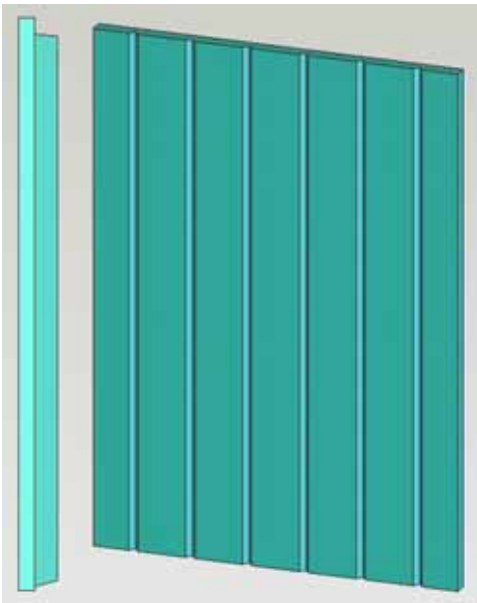

Figure 9
1. With one of the side window inserts held in the tweezers, test fit the insert to the window. The angled edge, shown in Figure 9, should be mounted toward the bottom.